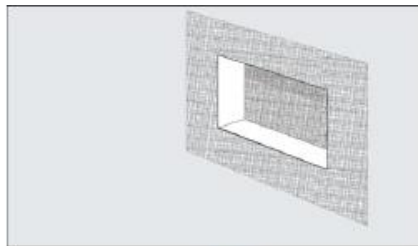

Fig. 6
Step 9: Apply the centre portion of the Connection Sheet (A) to the back face of the Niche. Press firmly to ensure total adhesion (Fig.6)